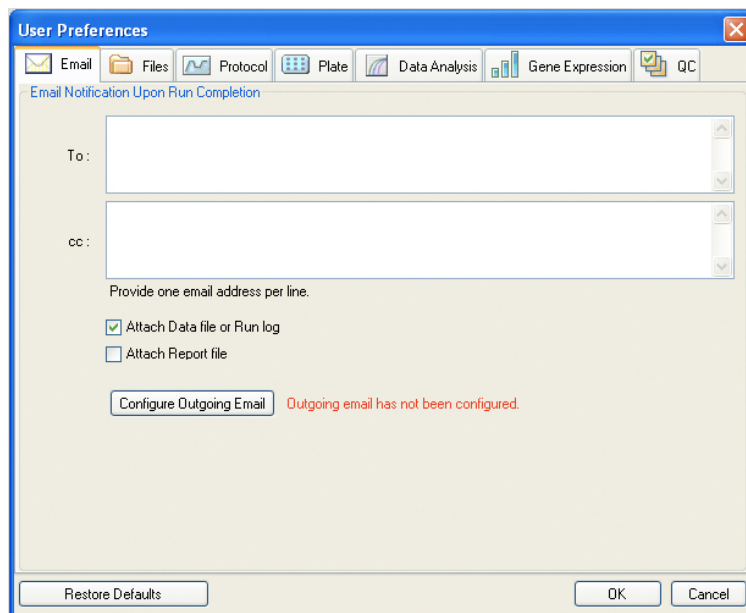

Figure 75. User Preferences window with tabs.
- Click one of the tabs (Figure 75) to view or change preferences
Select the **Email** tab (Figure 75) to enter the email addresses where you want to receive confirmation of the completion of the run. The software can send an attached data file or report file with the email when the check boxes next to these options are checked.